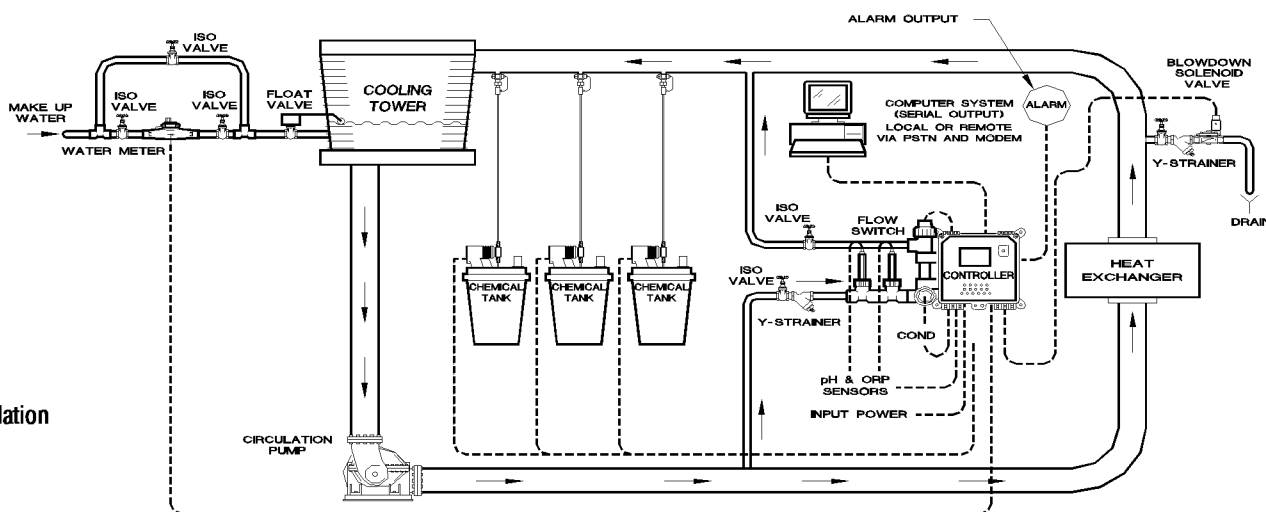

FIGURE 1
1. Install sensors or sample stream flow assembly at some point before chemical injection points, where chemical and water are thoroughly mixed. Refer to Figure 1.
5. Install hand valves on each side of the flow assembly for easy isolation and removal of sensors and strainer screens (see Fig.1).
Controller should be per installation diagram (see Figure 1). Make sure all fittings and connections are secure:
8. External alarm, if controller incorporates alarm relay. (See Figure 1, pg. 5)